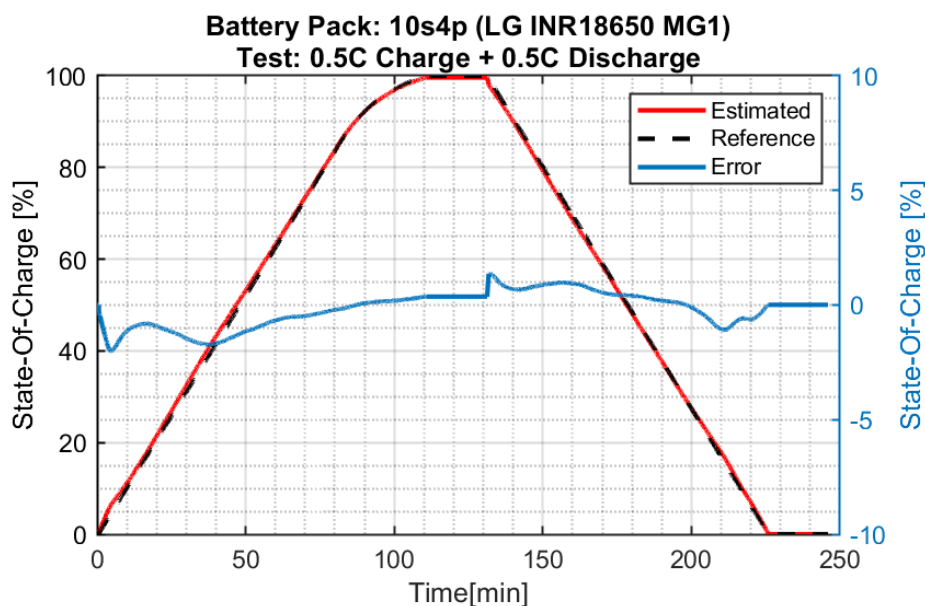

Figure 3: MBM16S-P50 Performance Example
- Accurate Battery Pack State-Of-Charge (SoC) Estimation (see Figure 3)